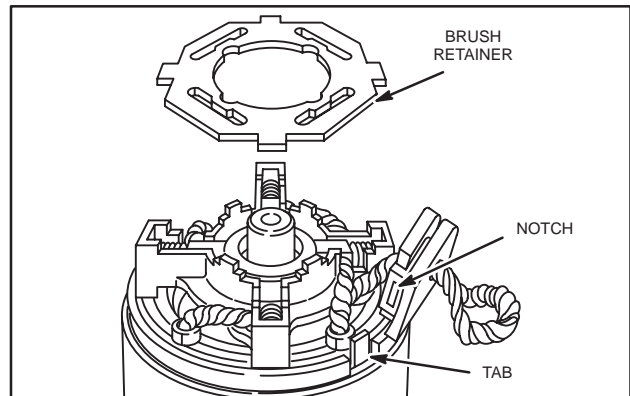

Fig. 75 – Assemble Rubber Seal
7. Assemble rubber seal to starter housing, Fig. 75.